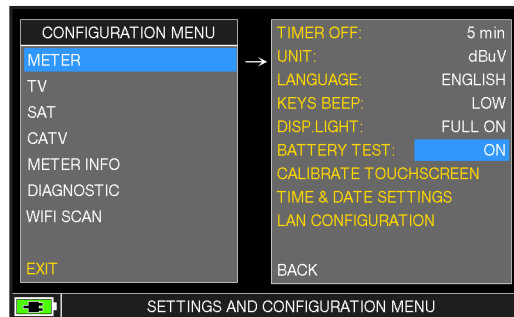

FIG. 2*
- Select the word "meter" and press "ENTER" (fig. 2) & press "ENTER" to confirm;
- Select "battery test" and select "on" (fig. 2);